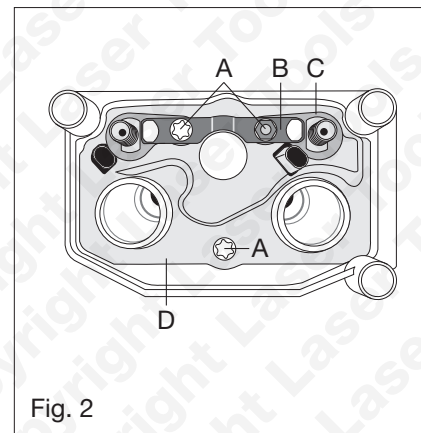

Fig. 2
4. Refer to Figure 2: remove screws **A**.